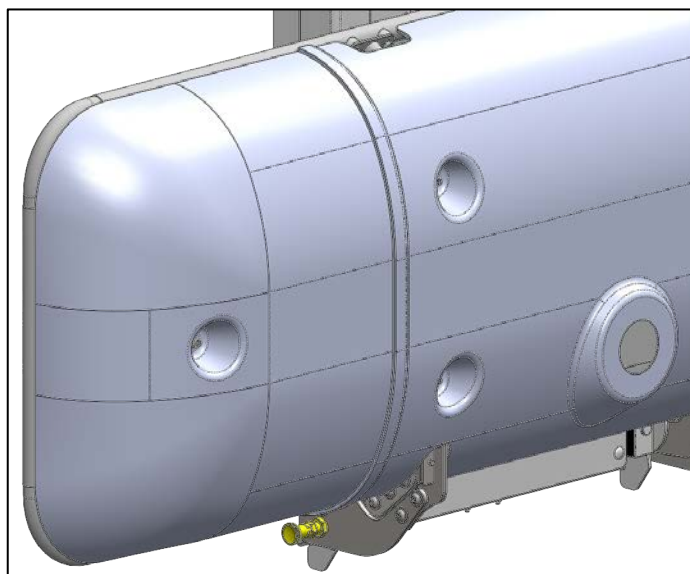

Fig.11
- Locate the plunger pin on the left-hand side of the back frame (highlighted in Fig.11). With one hand on the back of the drip tray, pull the head of the plunger out and rotate it 90° so that it stays in the locked position.
- Pull the head of the plunger pin on the left-hand side of the back frame (Fig.11), rotate it 90° and release.
- Rotate the head of the left-hand plunger pin (Fig.11) 90° and move the drip tray up and down until the plunger pin 'clicks' into place.
- Rotate the head of the left-hand plunger pin 90° (Fig.11) and move the drip tray up and down until the plunger pin 'clicks' into place.
- Pull the head of the plunger pin on the left-hand side of the back frame (Fig.11) and with your other hand, start to raise the drip tray.